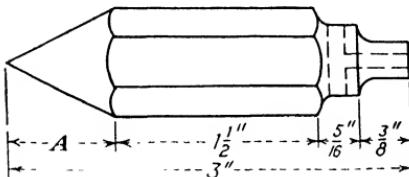

Fig. 27.—Plumb bob.
4. What is the length of *A* in Fig. 27?